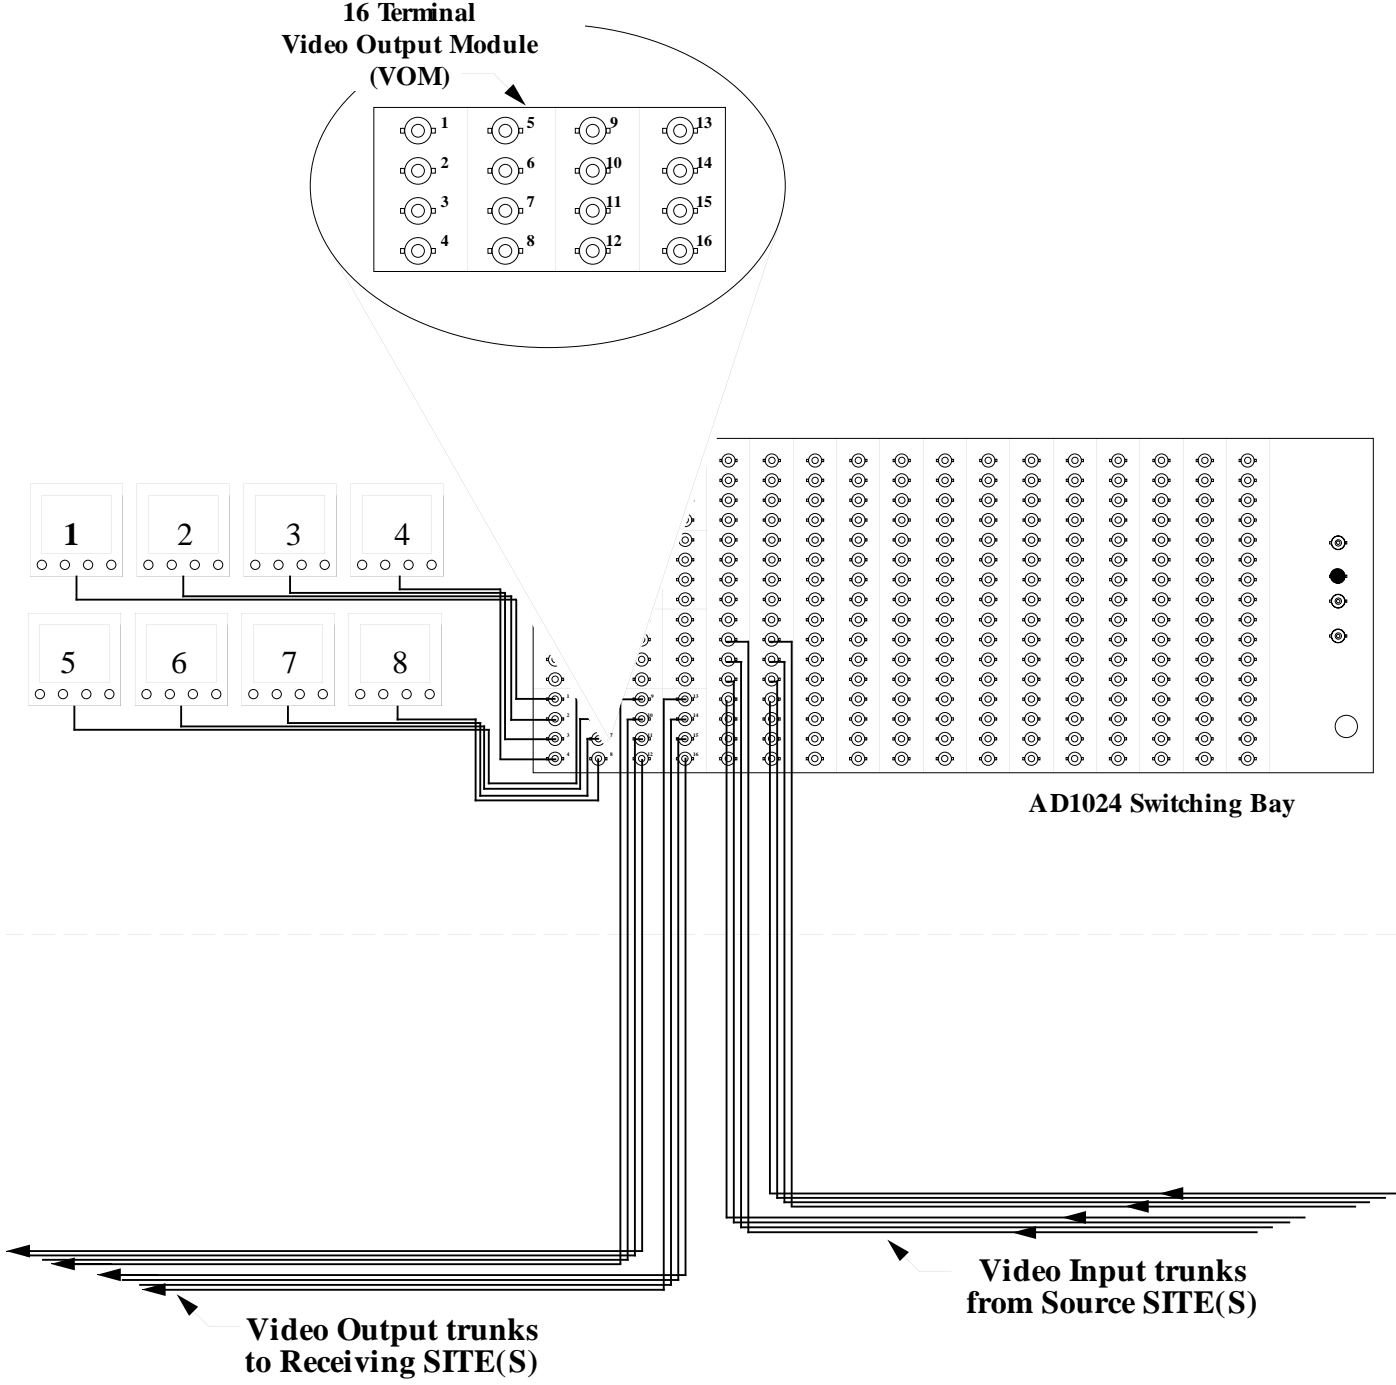

Figure 24 - Monitor Connections to the AD1024 Switching Bay Connection
All AD1024 system monitors are connected to Video Output Module (VOM) terminals located in the AD1024 Switching Bay units. All VOM terminals use BNC connectors (see Figure 24).
2. Number each video cable, using cloth marking tape or a similar identification method, as it is connected to the AD1024 Switching Bay VOM terminal (see Figure 24).